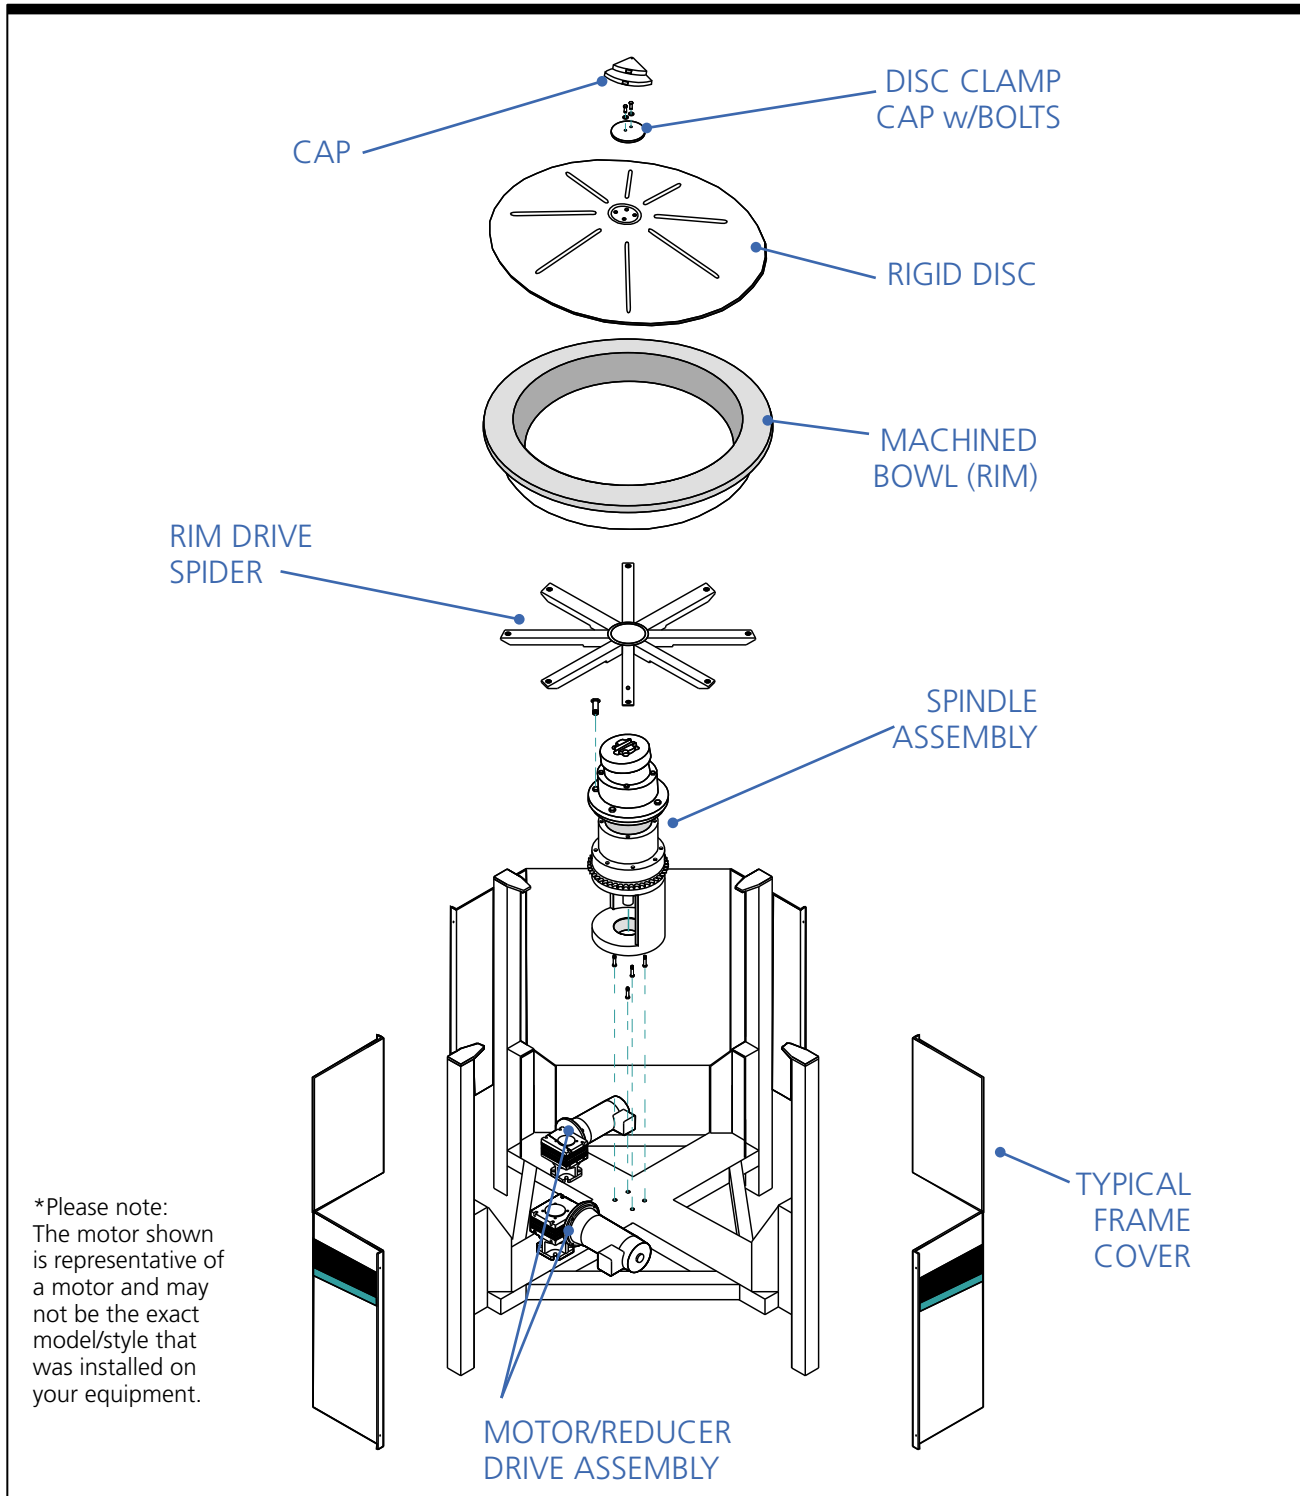
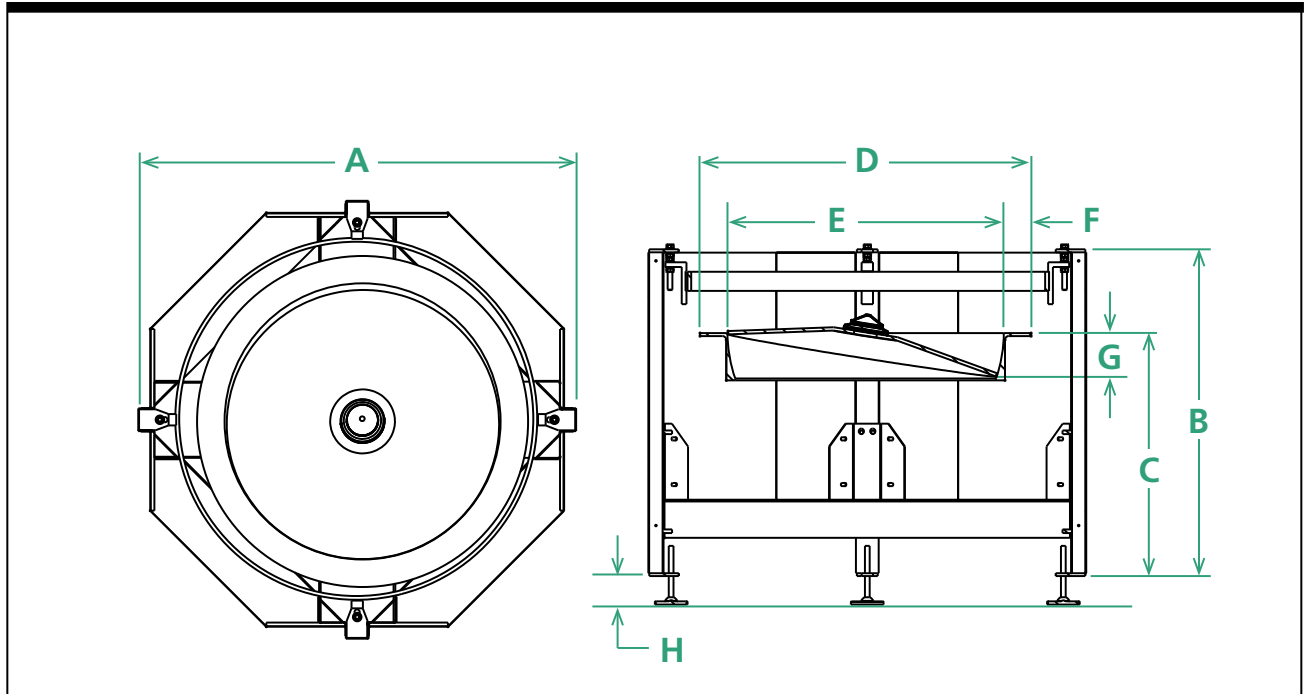
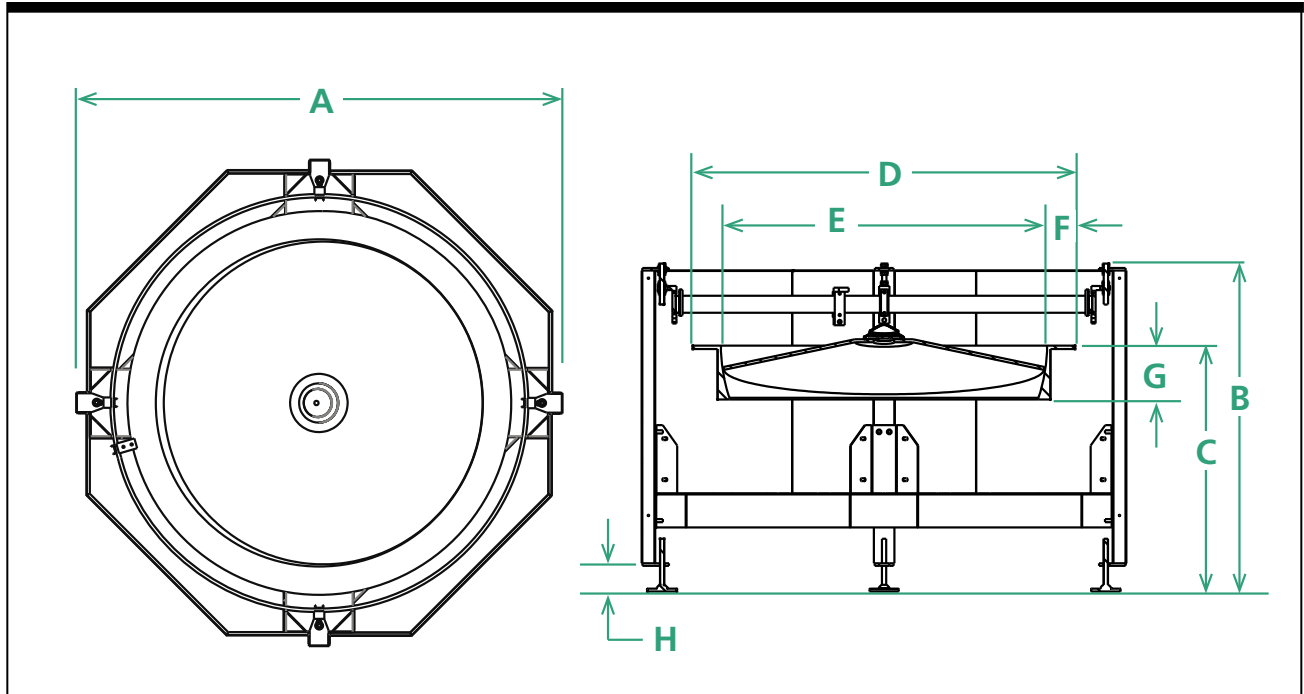
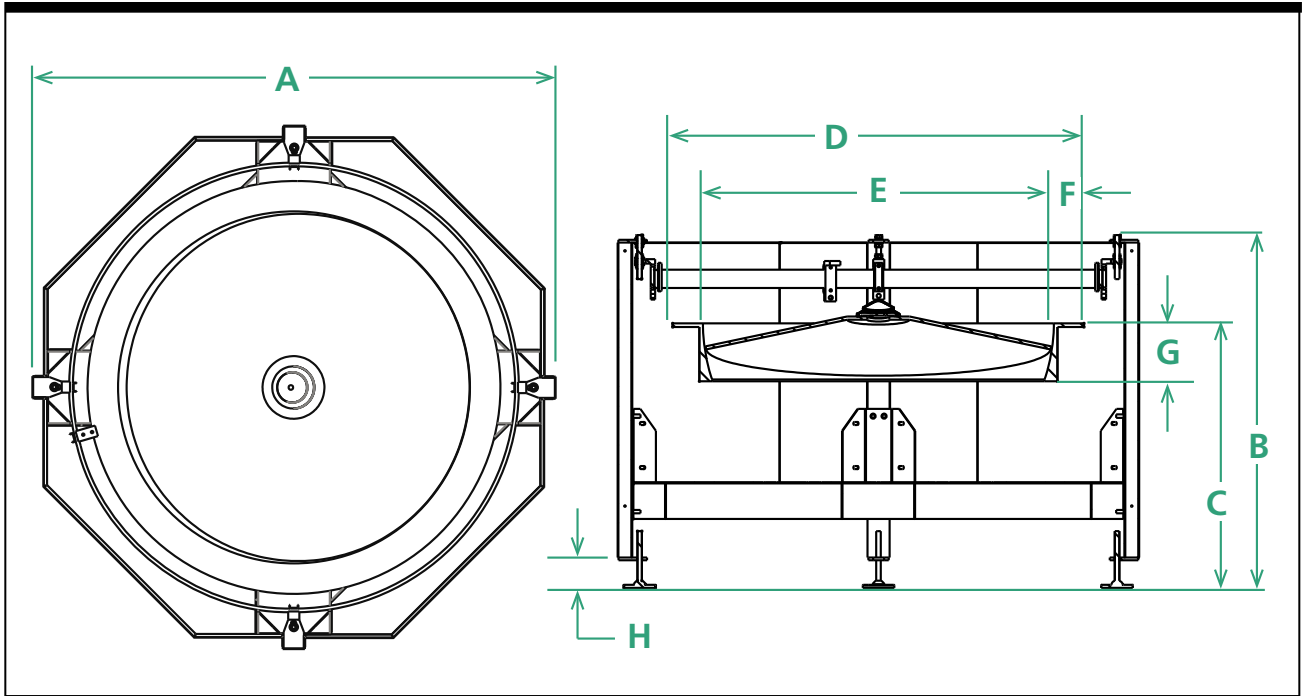

Figure 1-1. Typical FT-Series Dual Drive Feeder - Exploded View
Figure 1-2. FT-40-RD Side and Top Views
Figure 1-3. FT-50-RD Side and Top Views
Figure 1-4. FT-60-RD Side and Top Views
**Function** Each centrifugal feeder unscrambles, orients and feeds product. (Refer to Figure 1-1 for an exploded view of the FT-40/50/60-RD feeder). The delivery rate varies depending on product characteristics. The feeder easily interfaces with Shibuya Hoppmann's prefeeders, accumulating conveyors and assembly equipment. (See to Figure 1-2 for the FT-40-RD product specifications, Figure 1-3 for the FT-50-RD and Figure 1-4 for the FT-60-RD product specifications.)